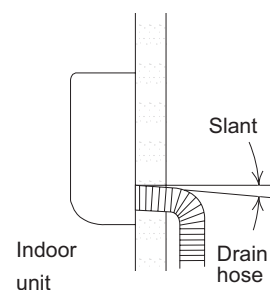

Fig. 2-264
- a) The drain hose should be slanted downward to the outdoors. (Fig. 2-264)